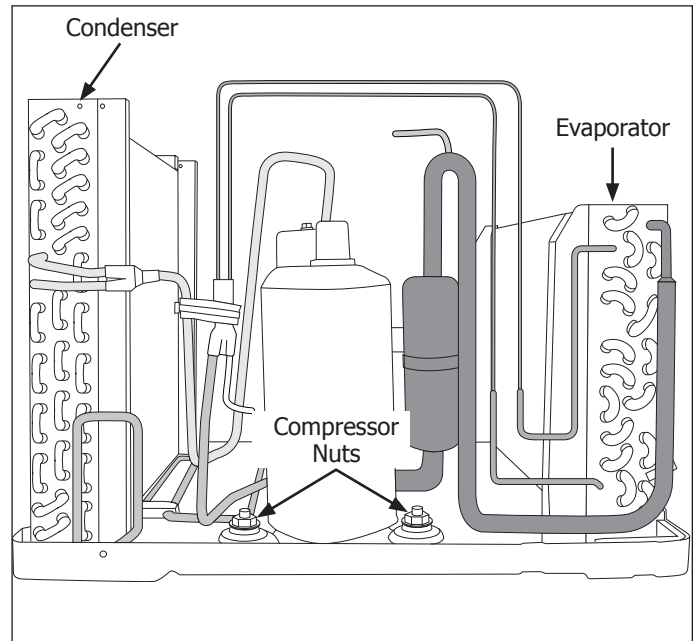

**Figure 4-105.**
7. Extract the two screws securing the bottom front of the evaporator to the unit base. (See Figure 4-105)